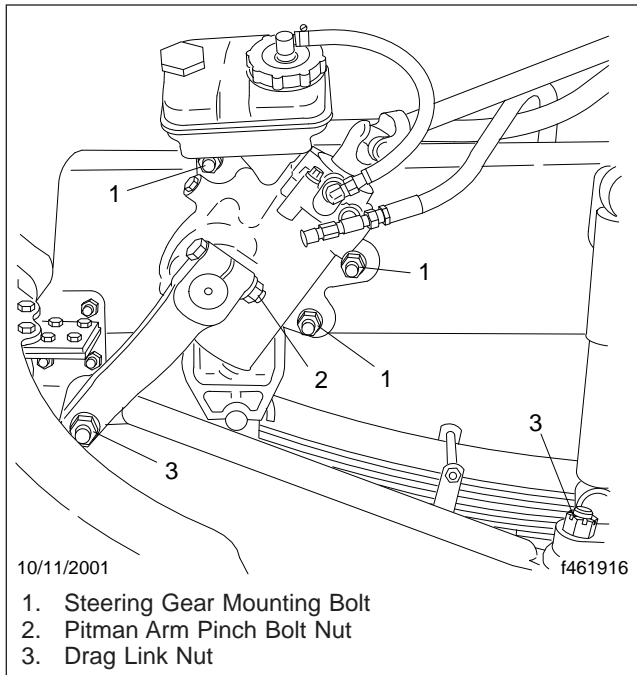

Fig. 11.13, Steering Gear Fasteners
- 5. Inspect the steering components. See Fig. 11.13.